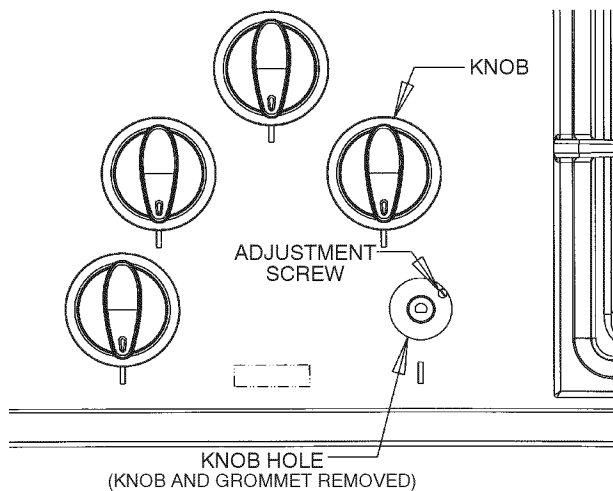

FIGURE 11
**C. LOW FLAME ADJUSTMENT (See figure 11)**
3. Locate the valve adjustment screw. See figure 11.
4. Locate the valve adjustment screw. See figure 11.